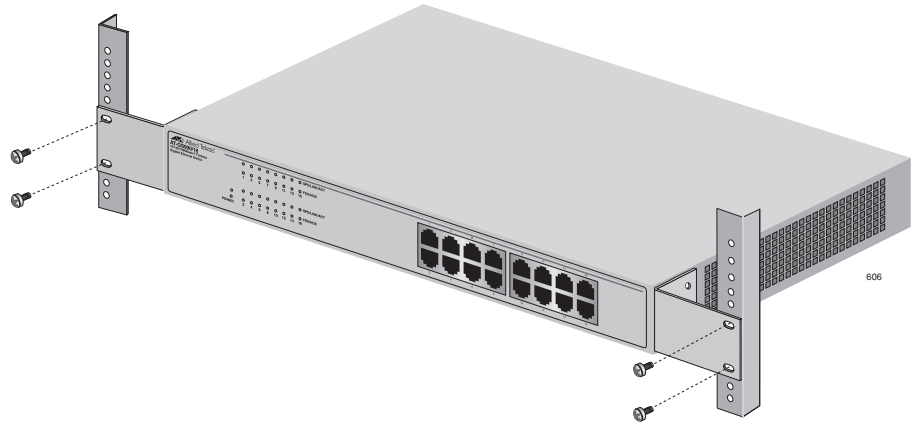

Figure 11. Rackmounting the Switch
5. Mount the switch in the 19-inch rack using the #10-32 Phillips screws which are shipped with the product, as illustrated in Figure 11.